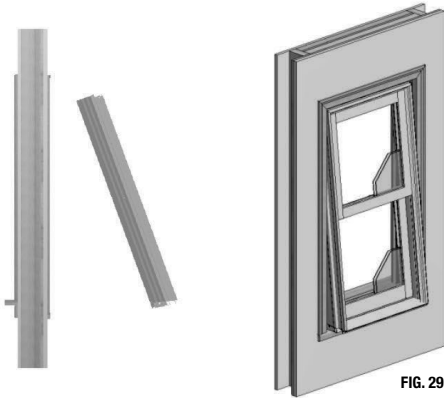

FIG. 29
- A) Tilt top of replacement window towards interior as shown below. (Fig. 29)